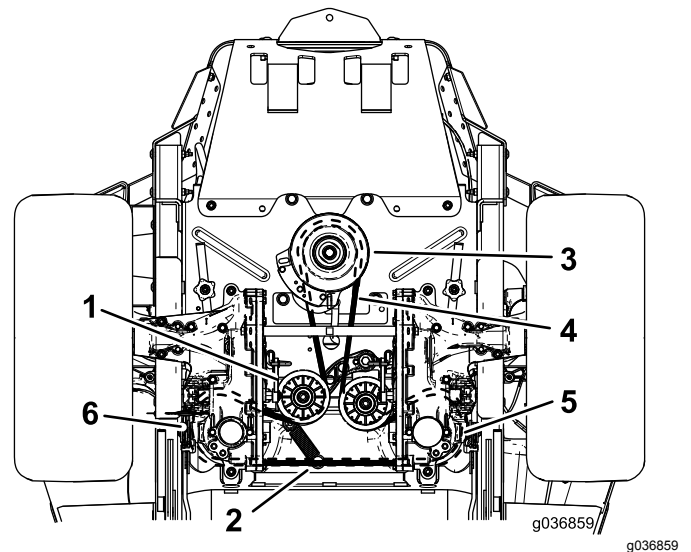

Figure 101
4. Raise the machine and support it with jack stands (Figure 101).
6. Remove the idler spring from the post (Figure 101).
8. Install the new belt around the engine pulley and the 2 hydraulic-pump pulleys (Figure 101).